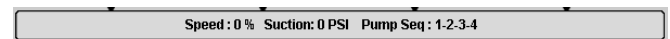

Figure 5.1.6 – Suction Bar
- 5) Suction Bar - The Station Suction bar is located below the Pump as shown in Figure 5.1.6. This bar shows Suction pressure and % Speed of System. It also shows Pump running sequence when the system is in Auto mode.